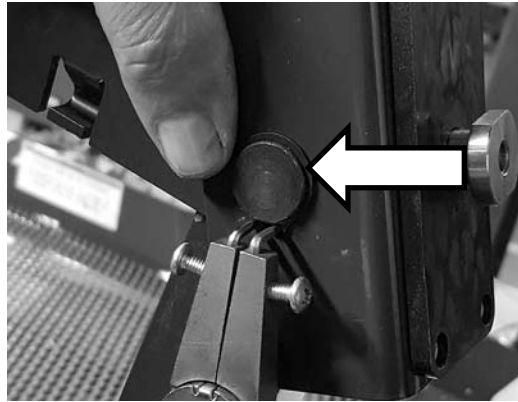

Figure 4. Lower Knuckle Link Arm Snap Ring, Top
2. Refer to **Figure 4**. Locate Upper/Lower Link Arm joint then remove Snap Ring. Retain Snap Ring for re-installation.